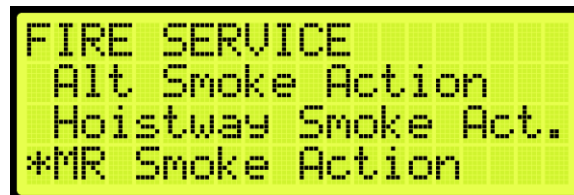

Figure 543: FIRE SERVICE Menu – MR Smoke Action
2. From the FIRE SERVICE menu, scroll and select MR Smoke Action (See Figure 543).